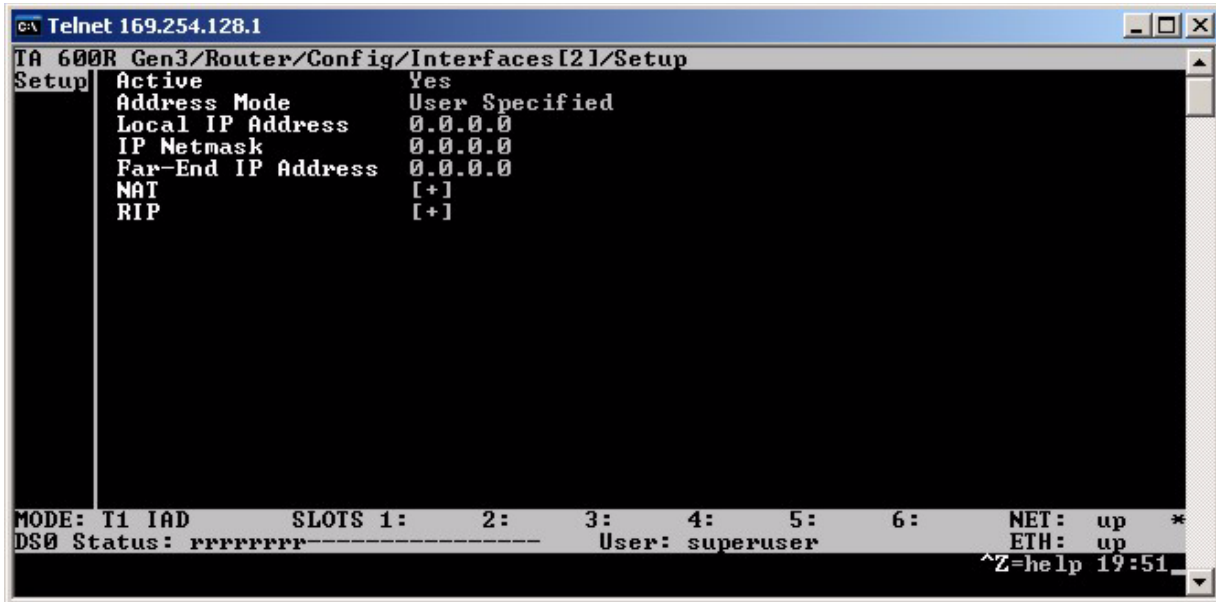

Figure 94: Interfaces/Setup screen
11. The Interfaces/Setup screen displays as shown in Figure 94.